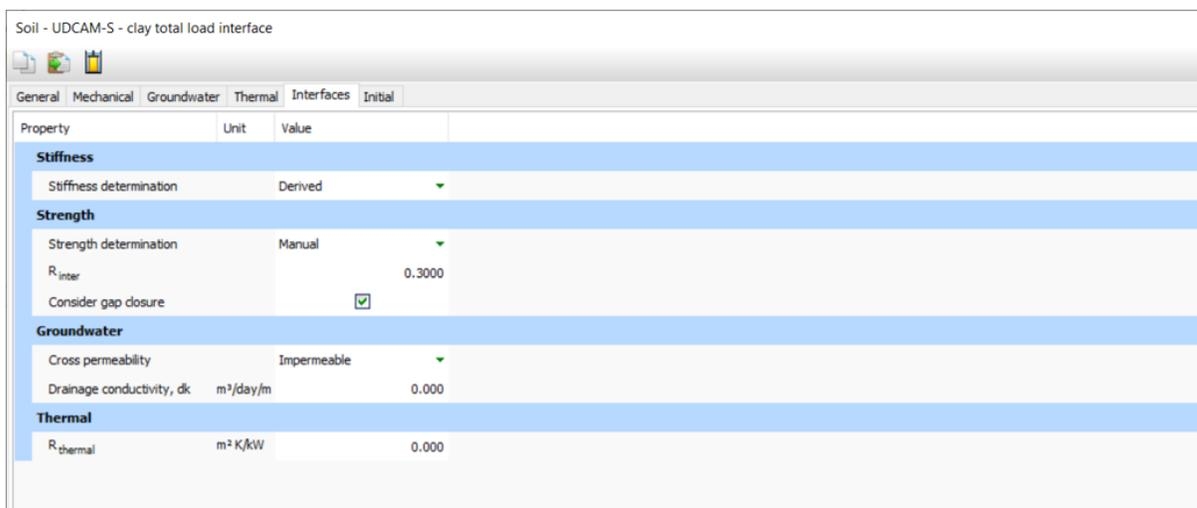

Figure 145: Clay-Total load interface
- b. Reduce the interface strength by setting  $R_{\text{inter}}$  to 0.3 as shown in Figure 145 (on page 168) and